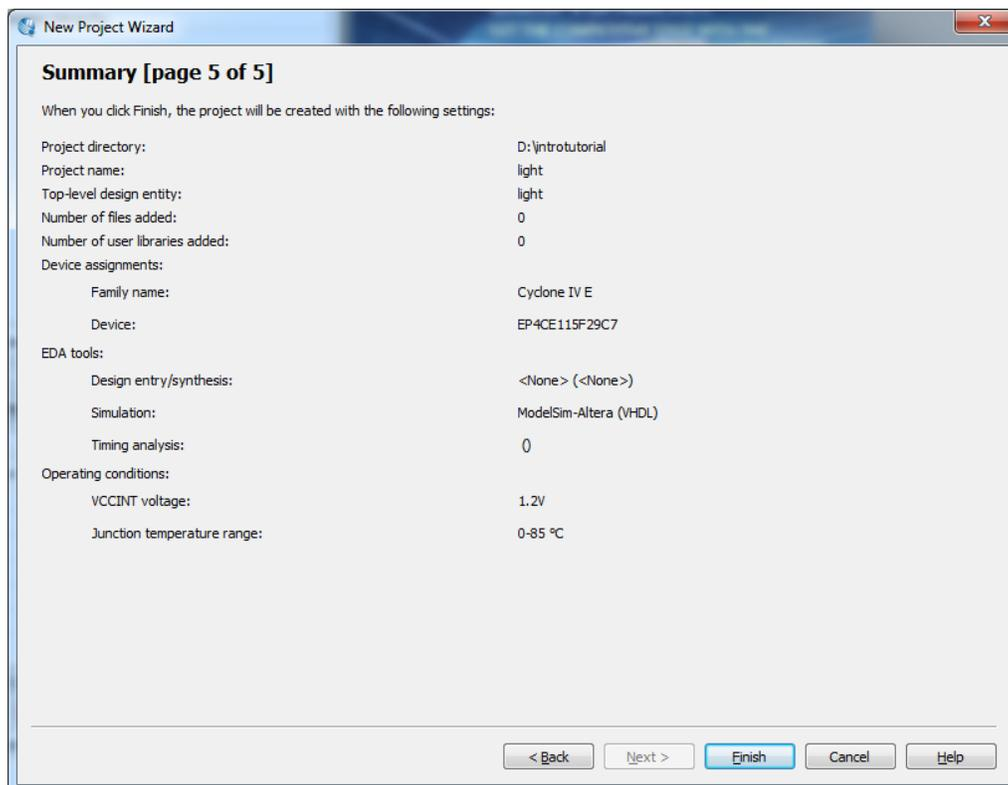
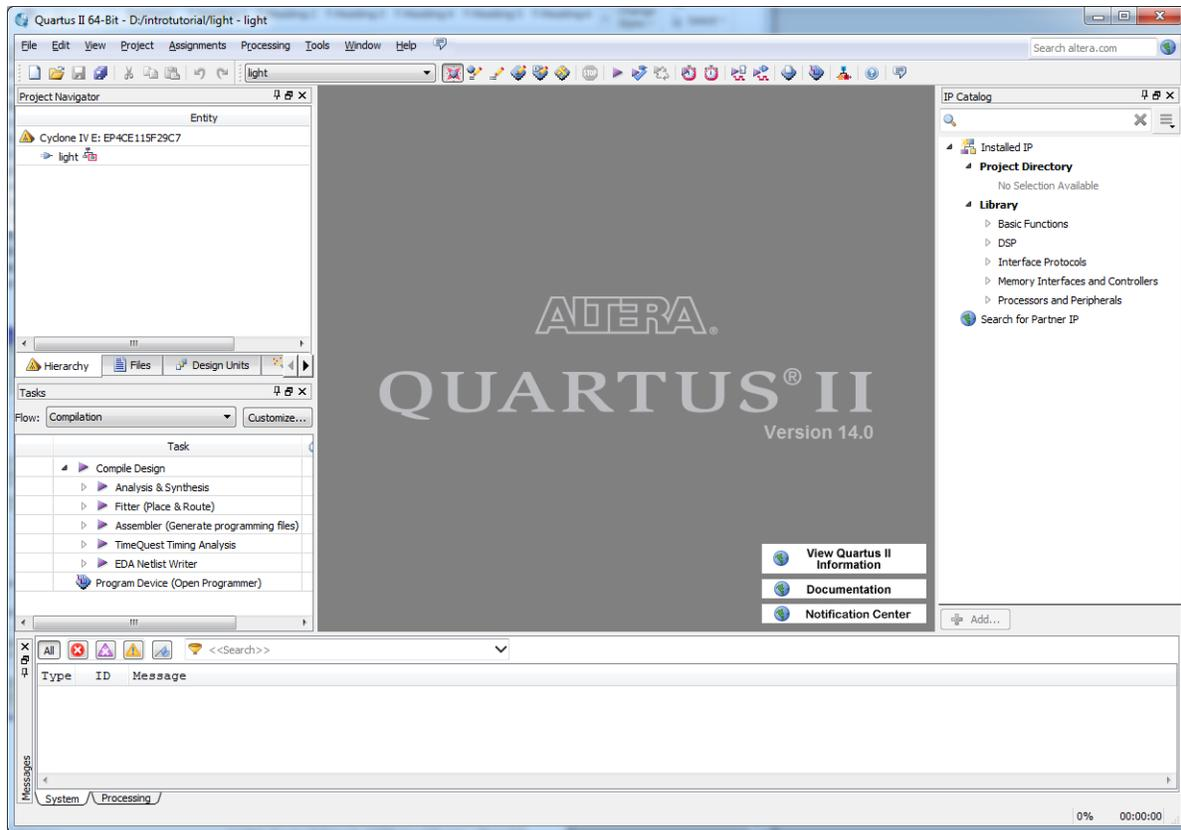

Figure 7. Summary of the project settings.
Figure 8. The Quartus II display for the created project.
- iii) A summary of the chosen settings appears in the screen shown in Figure 7. Press **Finish**, which returns to the main Quartus window, but with *light* specified as project, in the display title bar, as shown in Figure 8.